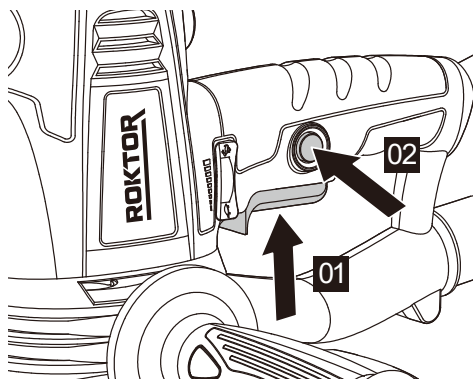

Figure 7
1. SWITCHING ON AND OFF (SEE FIG. 7)